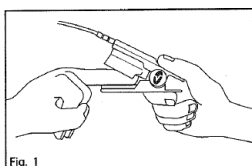

Fig. 1
1. Open the sensor by pressing on hinge tabs. Place the selected digit over the sensor window of the M- LNCS sensor. The fleshiest part of the digit should be covering the detector window in the lower half of the sensor. The top half of the sensor is identified by the cable. On a finger site, the tip of the finger should touch the raised digit stop inside the sensor. If the fingernail is long, it may extend over and pass the finger stop (Fig. 1 of 5).